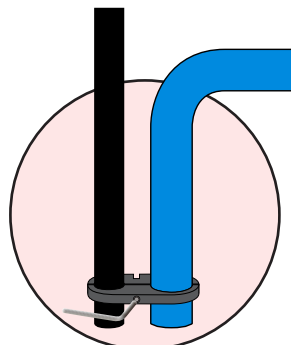

Fig 2.
3. Place the other half of the clamp around the uprights and secure the two sections back together with the bolt. (see fig 2) Do not tighten at this stage.